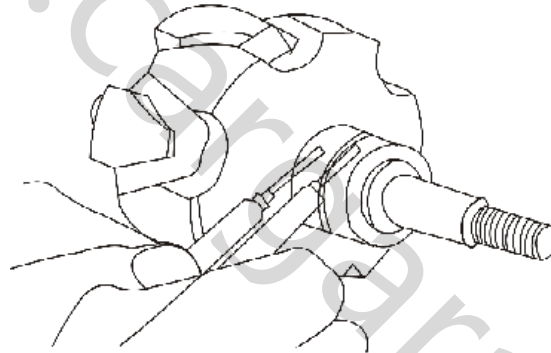

Fig.12-24 Short of Generator Rotor Winding
2) Check the rotor winding for breaks or shorts. Check the resistance between both rotor sliding rings through the ohms range of multimeter, as shown in Fig.12-24. Its normal resistance shall be 3Ω or so. If the resistance is too low, it shows that the rotor winding is shorted. If the resistance is ∞ , the rotor winding is broken.